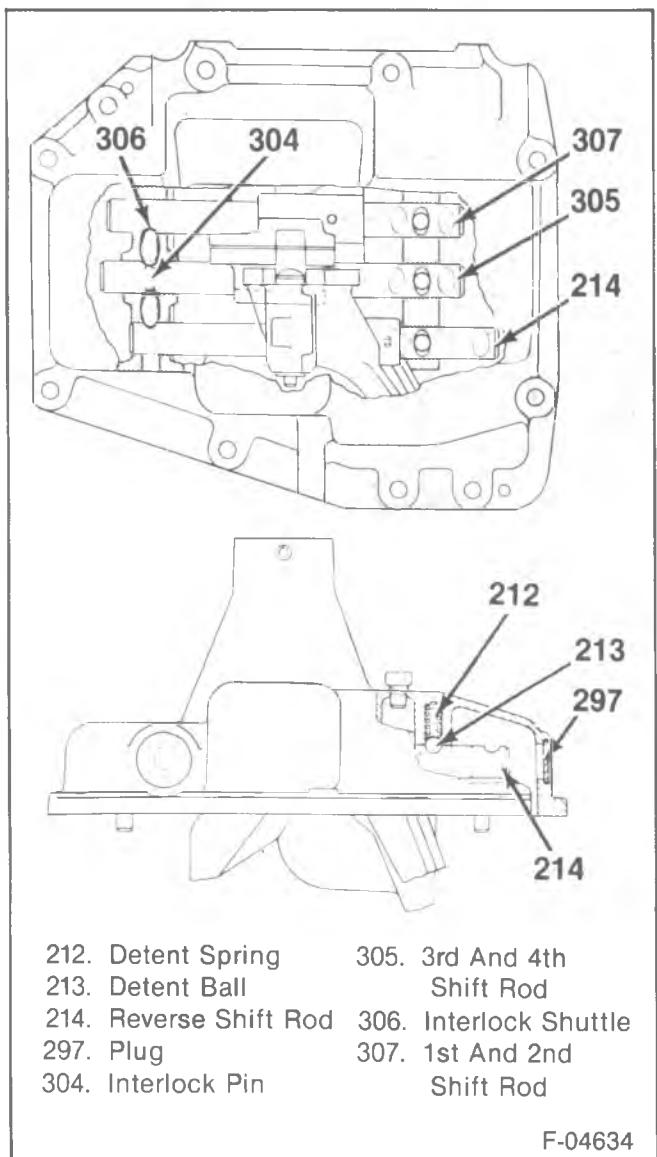

Figure 54—Interlock Shuttles and Pin
- Place the detent springs (212) and the balls (213) in the holes in the cover, (figure 54).
3. Hold the reverse shift fork (301) in position and push the rod through the fork and into the front support bore. Install a new retaining pin through the fork and rod.
4. Position the 3rd-4th shift fork (206) and push the rod through the yoke but not into the front support bore.
5. Place an interlock shuttle (306) in the cross-bore of the front support between the reverse and the 3rd-4th shift rods, (figure 54). Then install the interlock pin (304) in the 3rd-4th shift rod hole.
6. Push the 3rd-4th shift rod (306) into the front support bore and install a new retainer pin through the fork and rod.
7. Position the reverse and 3rd-4th shift rods in neutral position. Then place an interlock shuttle (306) in the cross-bore between the 1st-2nd and 3rd-4th shift rods, (figure 54).
8. Position the 1st-2nd shift fork (215) and push the rod through the fork and into the front support bore. DO NOT force the rod into the front to see that the reverse and 3rd-4th shift rods are in neutral.
10. Apply gasket sealer to the edges of three new expansion plugs (297) and install them in the housing openings. Position each plug with the convex side out and drive a flat faced 13 mm (1/2-inch) dowel pin against it to seat the plug.